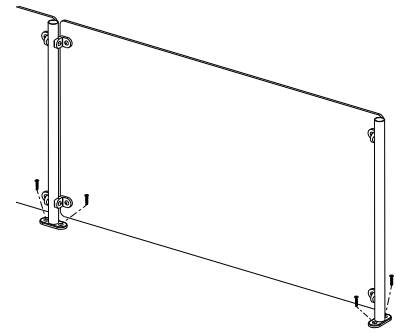

Figure 1. Food shield over holes
1. Set food shield on base unit. See Figure 1.